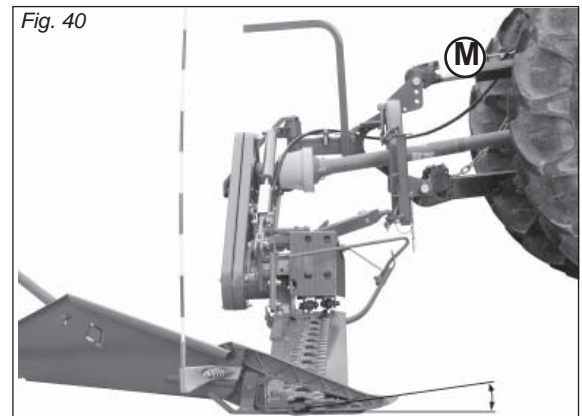

Fig. 40
- Adjust inclination of the cutting arm teeth using tie rod (M, Fig. 40).
for low, moist and thick fodder, tilt the teeth downwards by shortening the tie rod (M, Fig. 40).
for ground with rocks and stones tilt the teeth upwards by lengthening the tie rod (M, Fig. 40).